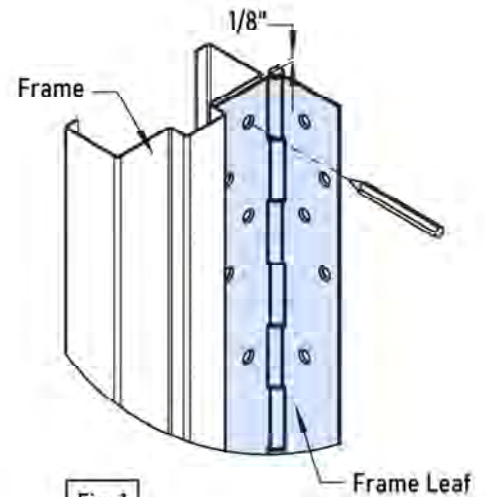

Fig. 1
- A. Place hinge frame leaf on rabbet. Position top of hinge 1/8" maximum below header (Fig. 1 & 2).